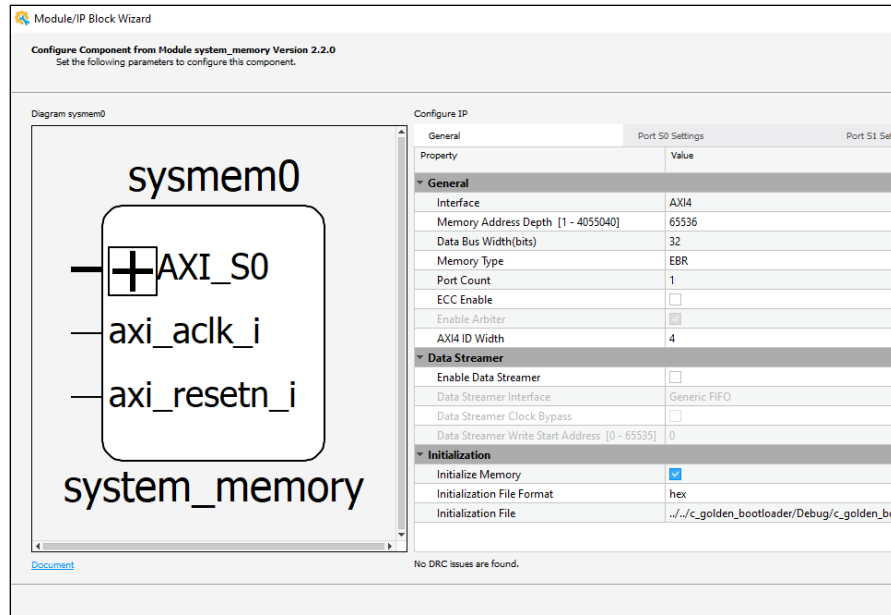

Figure 8.41. System Memory IP Configuration
- Double-click on the highlighted component shown in the schematic and it opens the Module/IP Block Wizard as shown in Figure 8.41.